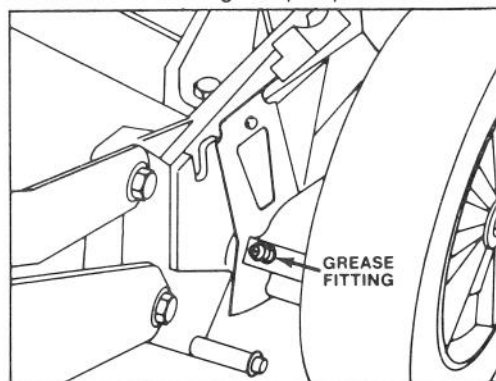

Figure 21
2. Move rear wheel height-of-cut levers to "C" setting. Wipe grease fittings with clean rag (Fig. 21). Install grease gun onto fitting and gently apply 2 or 3 pumps of #2 Multi-Purpose Lithium Base Grease. Excess pressure may damage seals.